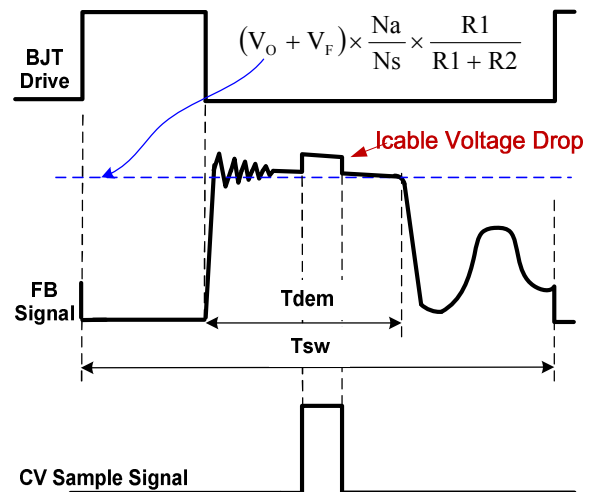

Fig.2
In primary side control, the output voltage is sensed on the auxiliary winding during the transfer of transformer energy to the secondary. Fig.2 illustrates the CV sampling signal timing waveform in DP2525JD. As shown in Fig.2, it is clear that there is a down slope representing a decreasing total rectifier V_f and its voltage drop as the secondary current decreases to zero. To achieve an accurate representation of the secondary output voltage on the auxiliary winding, the CV sampling signal blocks the leakage inductance reset and ringing. When the CV sampling process is over, the internal sample/hold (S&H) circuit captures the error signal and amplifies it through the internal Error Amplifier (EA). The output of EA is sent to the Primary Side Constant Voltage Modulator (PSR-CVM) for CV control. The internal reference voltage for EA is trimmed to 2V with high accuracy.
During the CV sampling process, an internal variable current source is flowing to FB pin for Cable Drop Compensation (CDC). Thus, there is a step at FB pin in the transformer demagnetization process, as shown in Fig.2. Fig.2 also illustrates the equation for “demagnetization plateau”, where V_o and V_f is the output voltage and diode forward voltage; R_1 and R_2 is the resistor divider connected from the auxiliary winding to FB Pin, N_s and N_a are